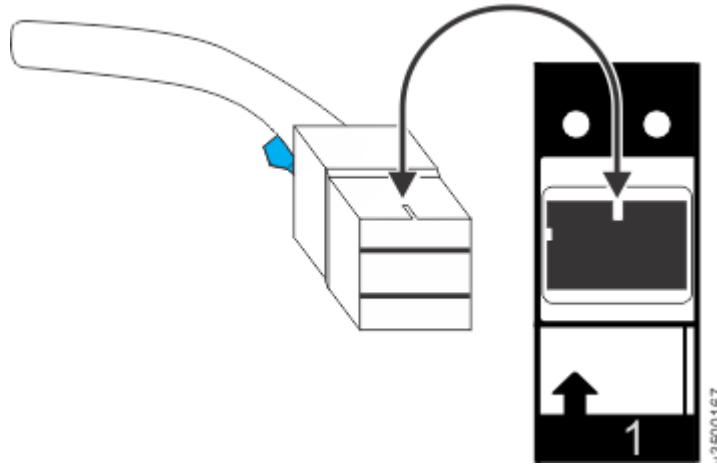

Figure 95. Proper orientation for SAS cable connector
- Figure 95 on page 147 shows the correct orientation. The blue tab is always below the port for expansion enclosure attachment SAS cables.